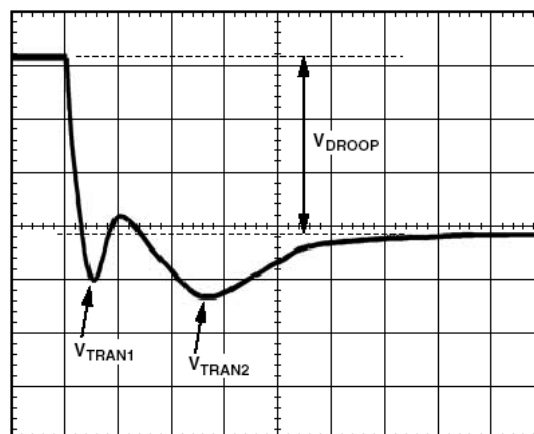
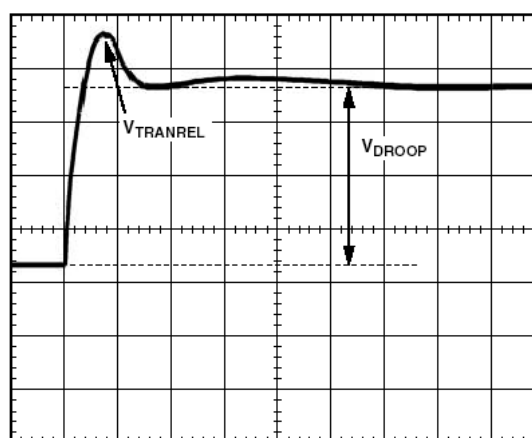

Figure 9. Transient Setting Waveform
Figure 10. Transient Setting Waveform
19. With dynamic load still set at maximum step size, expand scope time scale to see $2\mu\text{s}/\text{div}$ to $5\mu\text{s}/\text{div}$. You will see a waveform that may have two overshoots and one minor undershoot (see Figure 9). Here, V_{DROOP} is the final desired value.
21. For load release (see Figure 10), if $V_{TRANREL}$ is larger than V_{TRAN1} (see Figure 9), you do not have enough output capacitance. You will either need more capacitance or to make the inductor values smaller (if you change inductors, you need to start the design over using the spreadsheet and this tuning procedure).